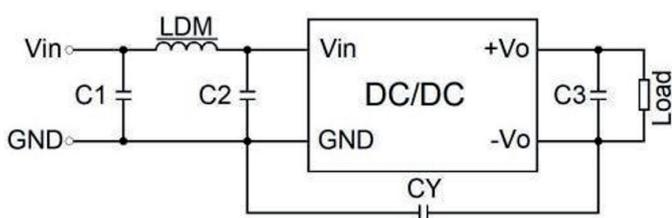

Figure 4
2. EMC typical recommended circuit See Figure 4